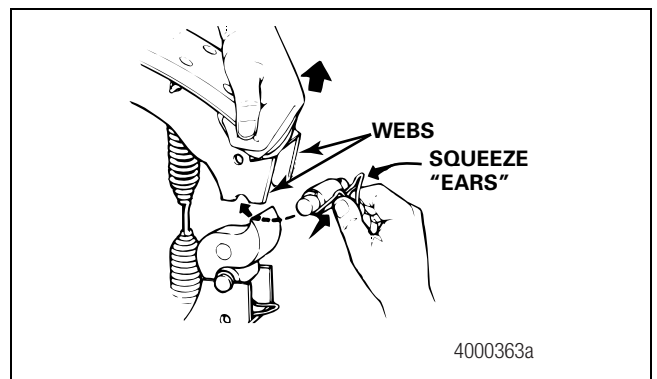

Figure 5.21
4. Pull each brake shoe away from the camshaft to enable you to install the brake shoe roller and roller retainer. Press the retainer ears to fit into the retainer between the brake shoe webs. Figure 5.21.